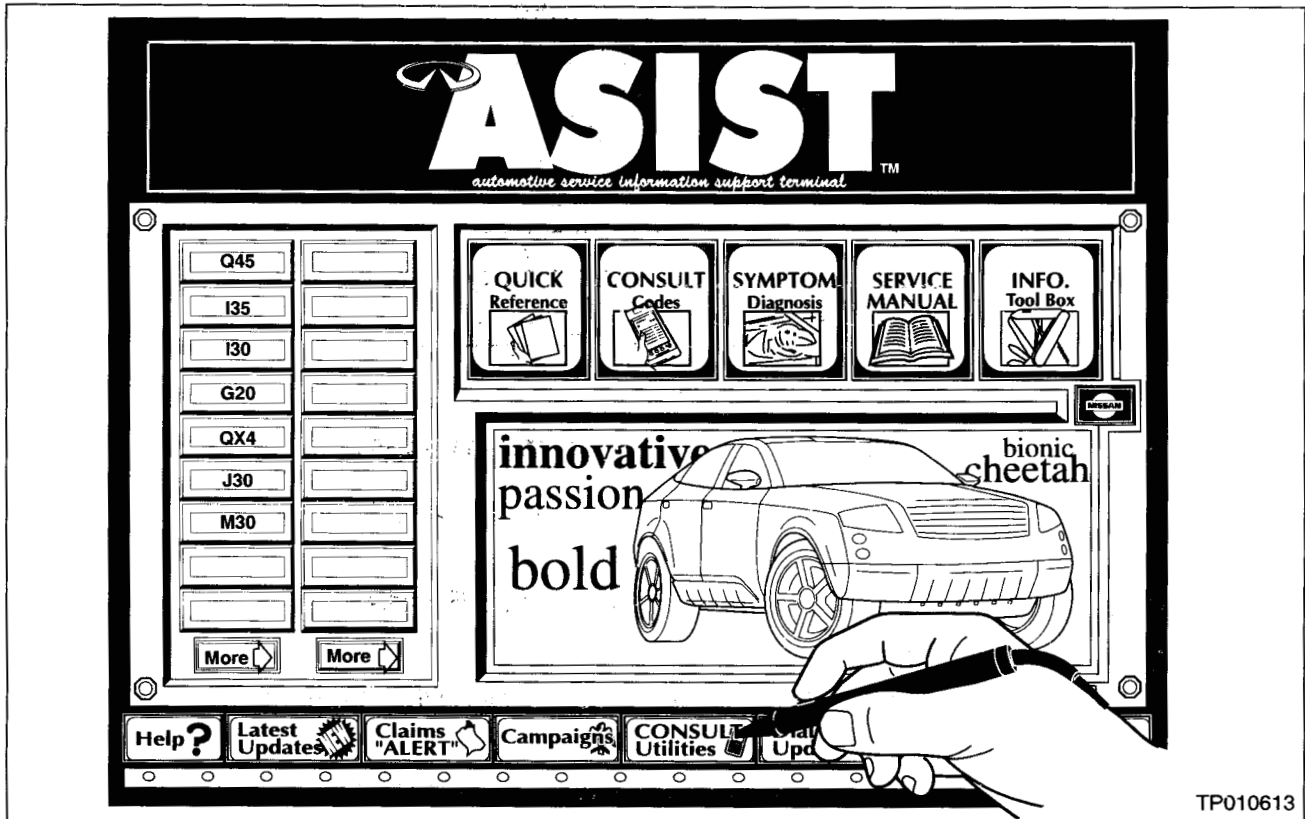

Figure 6
5. Launch ASIST. From the ASIST PC main menu screen, select **"CONSULT UTILITIES"** (see Figure 6).